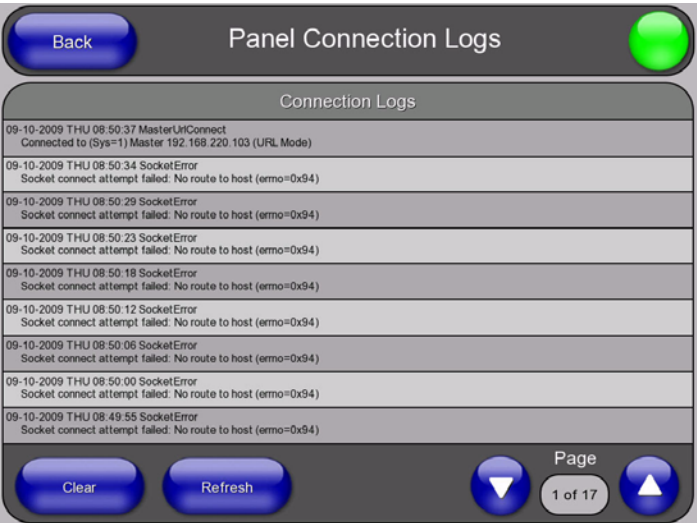

FIG. 75 Protected Setup (Tools) - Panel Connection Logs Page
- **Panel Logs** - Press to access the *Panel Connection Logs* page (FIG. 75)
Select **Panel Logs** from the *Tools* slider (see FIG. 74) to access the *Panel Connection Logs Page* (FIG. 75):